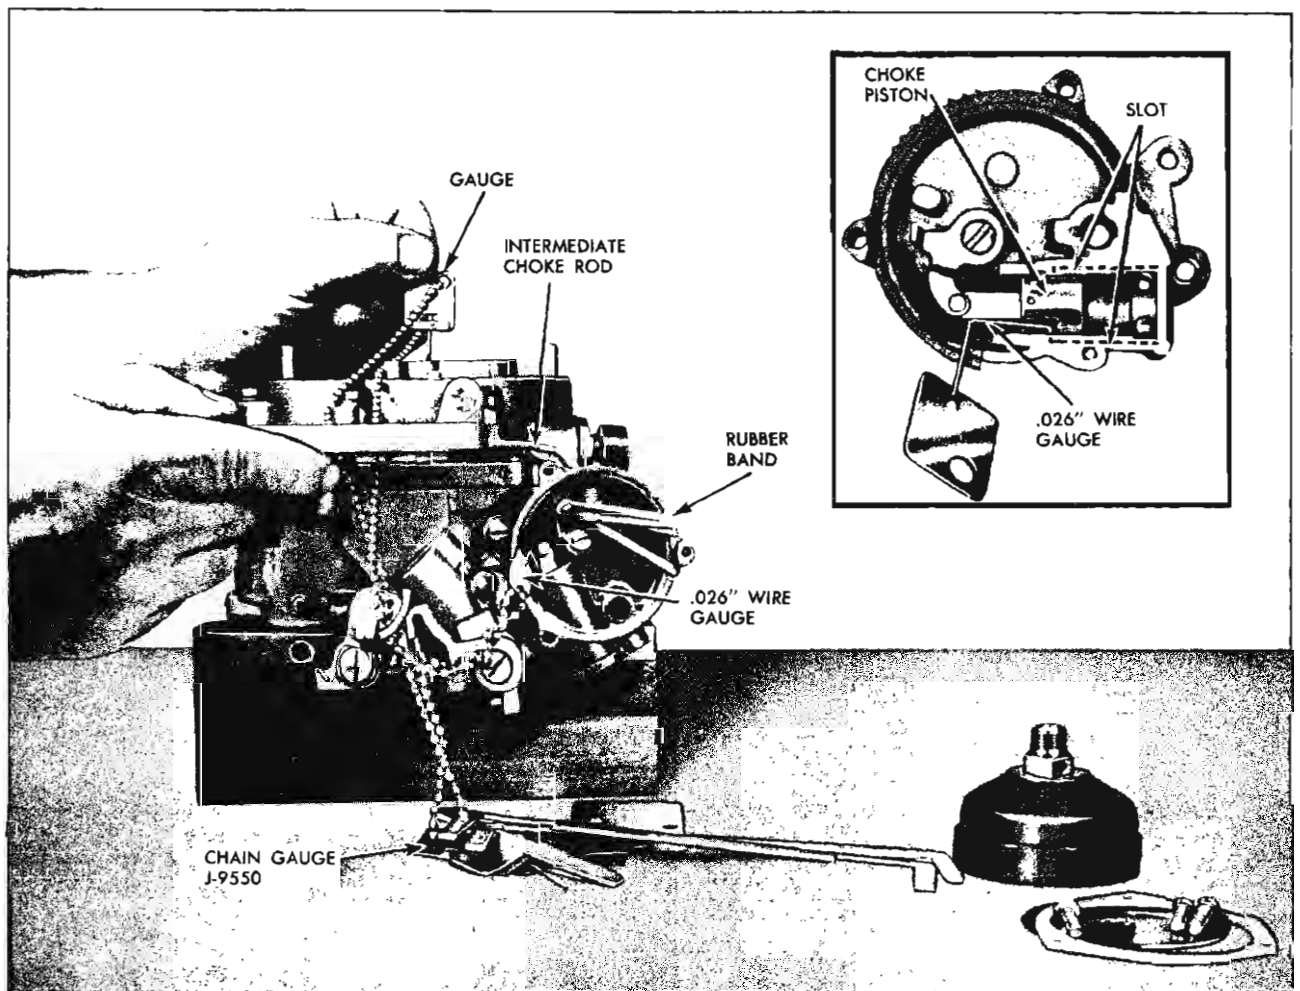

Fig. 33—Intermediate Choke Rod Adjustment
3. Open choke valve and insert .026" wire gauge, J-9550 between bottom of slot in piston and top of slot in choke piston housing (fig. 33). Close